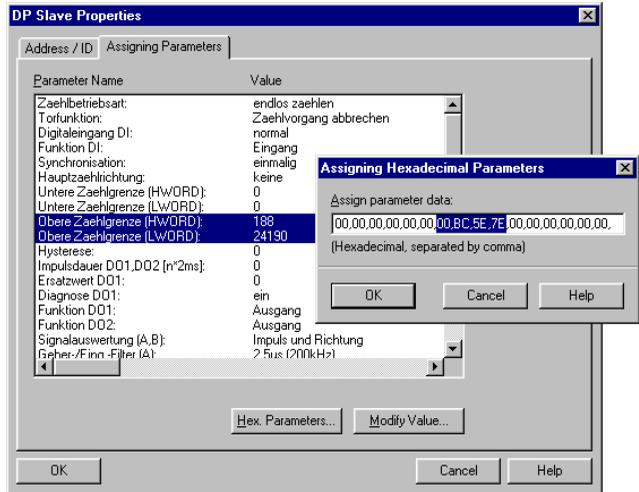

Figure 245: Input of the upper count limit as a high and low word.
- The calculated values are entered in the corresponding input lines of the parameter mask for the XI/ON counter module (counter mode), (see Figure 245).